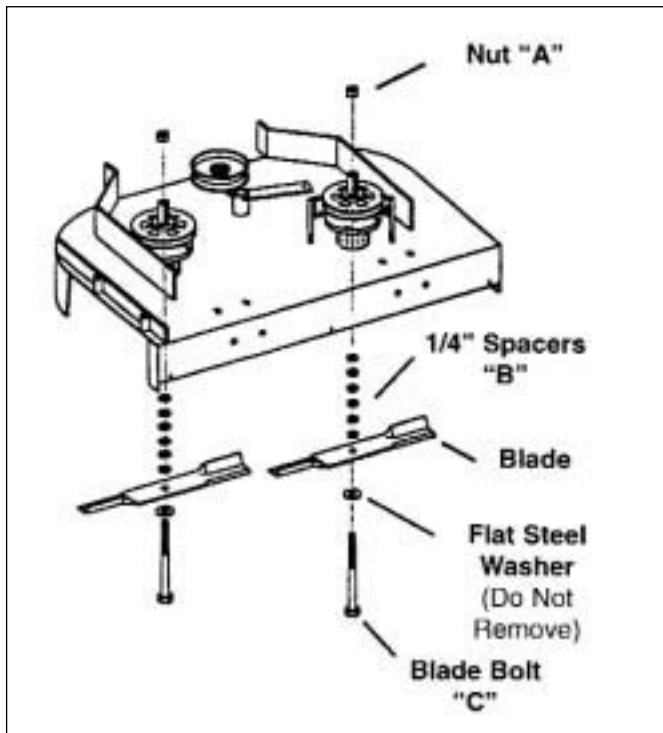
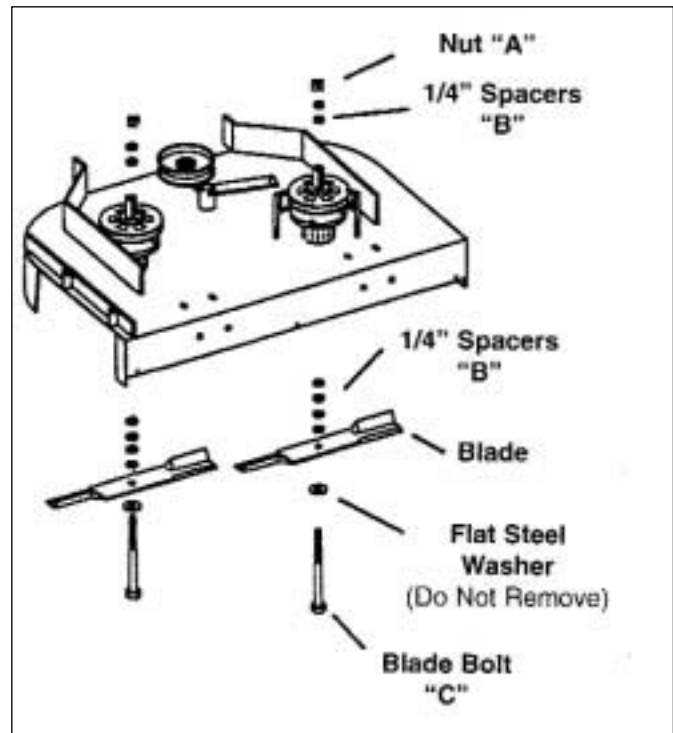

Figure 6
Figure 7
3. Using two (2) 15/16" box end wrenches, use one wrench to loosen nut "A" while holding blade bolt "C" with the other wrench (Figure 6).
5. To raise the blades to the height desired, remove the appropriate amount of spacers from the blade bolt. Example: If the height of cut needs to be raised 1/2", move two (2) of the 1/4" spacers "B" on each blade from underneath the mower (Figure 6) to the top of the mower (Figure 7).
7. Install the blade spacers that were removed, back onto the blade bolt followed by the nut and tighten (Figure 6). **IMPORTANT:** The amount of spacers should always be the same on each blade bolt. Never put the spacers below the blade.